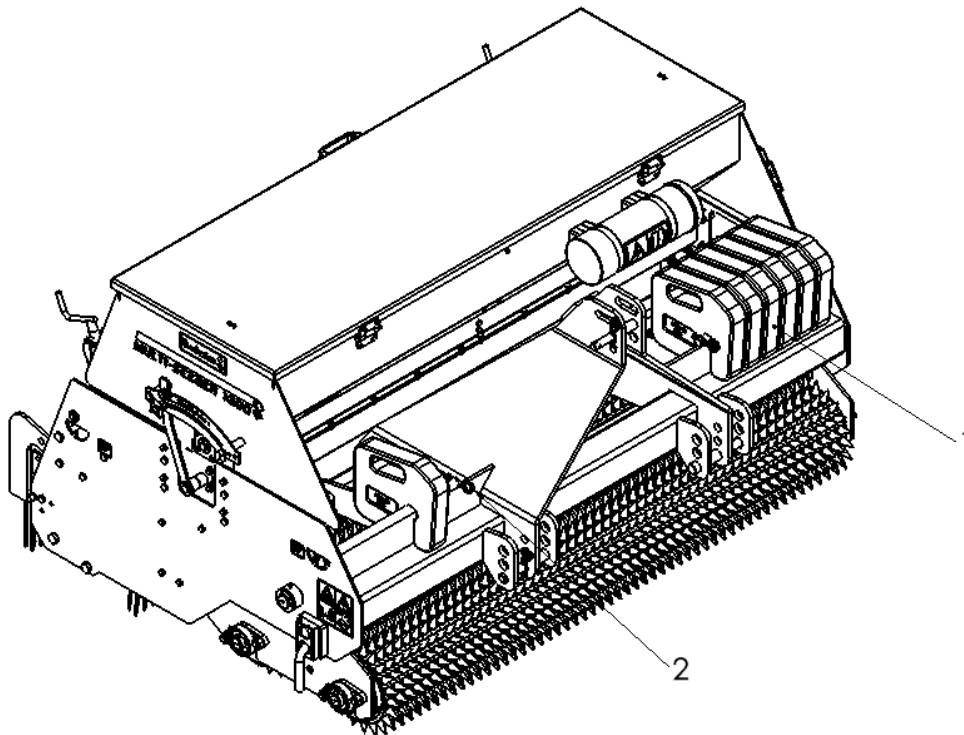

Figure 12
The Multi-Seeder has a front beam to which the weights (1) can be attached. (Figure 12)